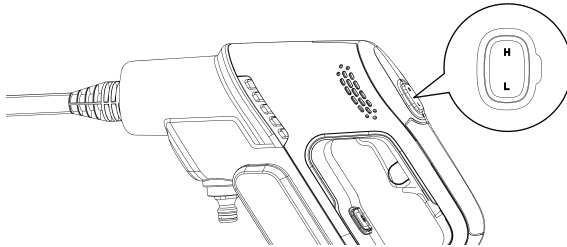

Fig. 7
ADJUSTING THE CLEANING PRESSURE (Fig. 7)
2. Short press the pressure setting button to switch between settings as needed. The corresponding indicator light will illuminate to indicate the selected mode. (Fig. 7)